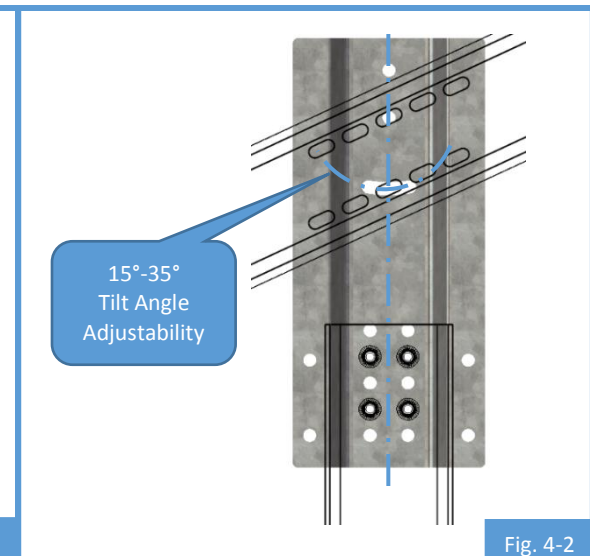

Fig. 4-2
- Top Bracket Tilt Angle: $15^\circ - 35^\circ$ (Fig. 4-2)